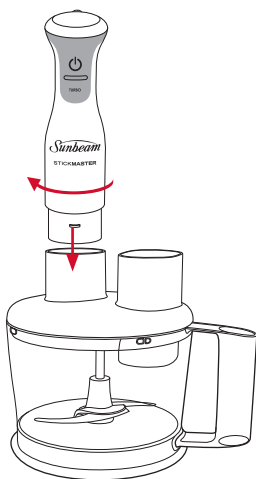

Figure 9
2. Insert the motor housing into the processing bowl lid and twist the wand in a clockwise position until you hear a click. See Figure 9.